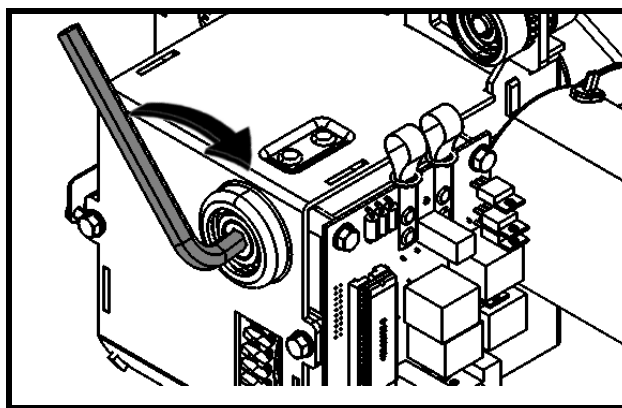

Fig. 17
- 11) Engage the transmission by turning the main shaft clockwise with the 8 mm Allen key (see Fig. 17).
- 17) Engage the transmission by turning the main shaft clockwise with the 8 mm Allen key (see Fig. 17).